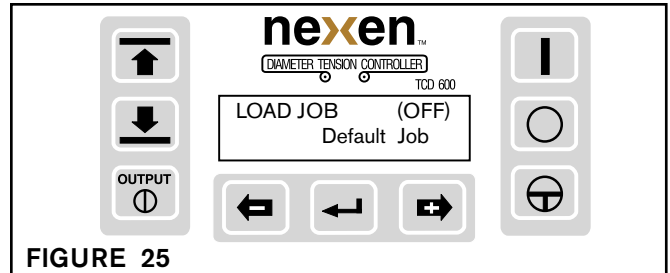

FIGURE 25
9. You can then choose to load either the default job or any of 5 previously saved jobs. Press the plus or minus button to select the desired job (See Figure 25), then press Enter; the display will confirm that the selected job is loaded, then it will return to the Set Job Mode.